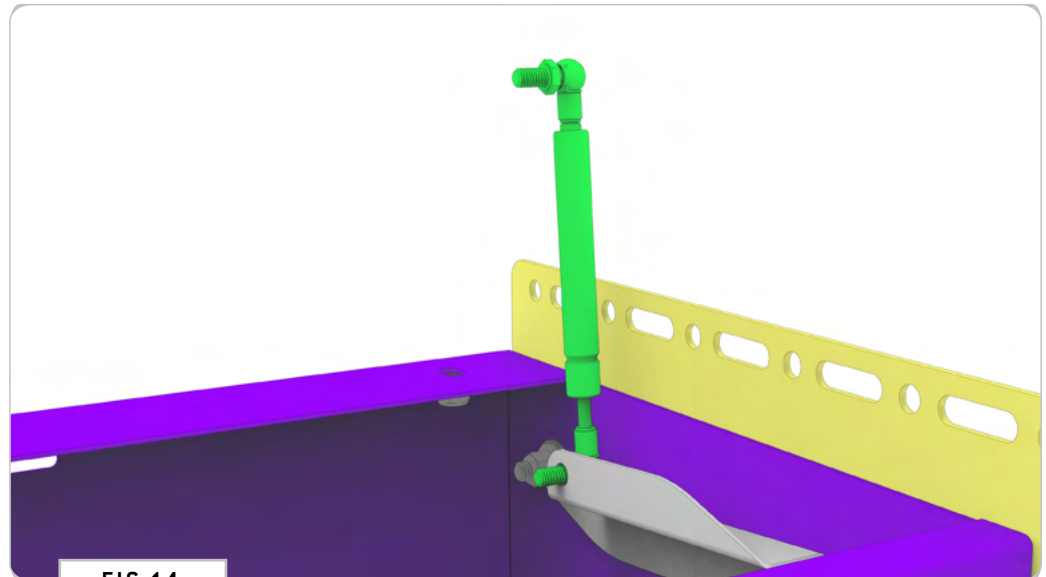
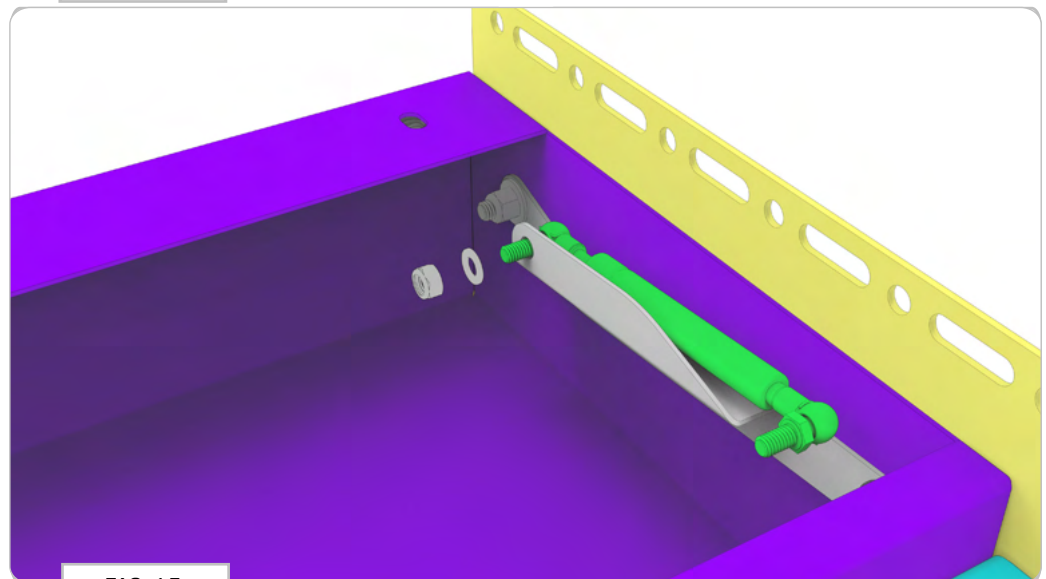

FIG 14
FIG 15
**2.5 Attach Gas Struts to Brackets:** Fasten **Gas Struts** to the **Left and Right Side Chest Strut Brackets** in the orientation shown in **FIG 14** using **(2) M8 Nylon Locknuts and Flat Washers (FIG 15)**.